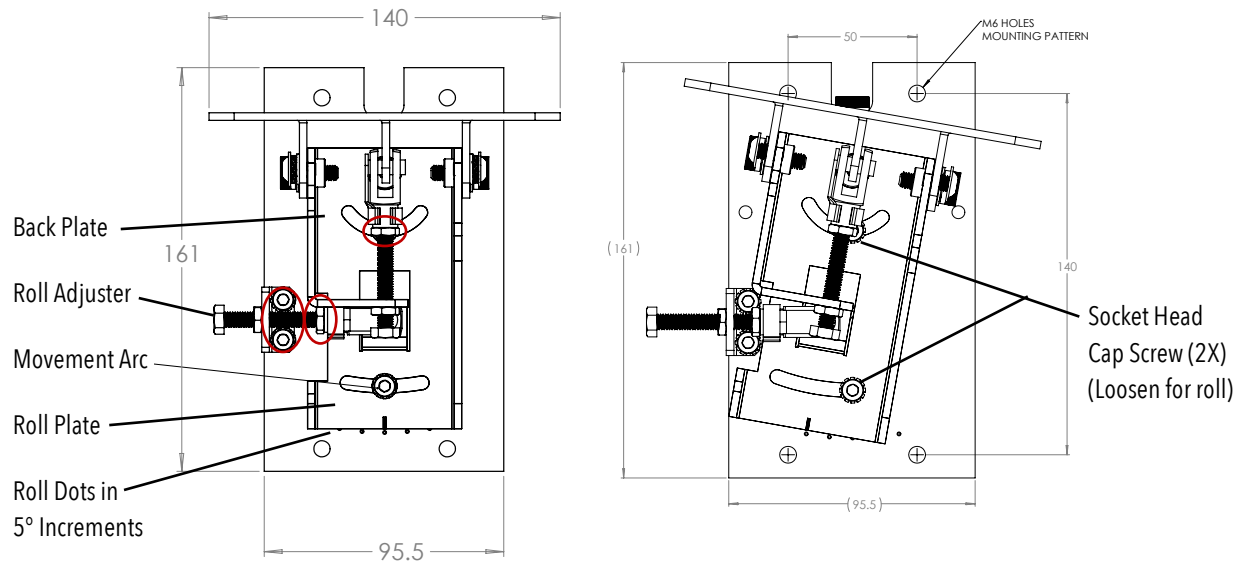

Figure 58. Adjustable Mount's Roll Adjustments
1. If you need to adjust the sensor's pitch *and* roll, loosen all locking nuts and screws below the pitch plate *except* for the items circled in red in Figure 58. Otherwise, loosen only the items pertaining to the pitch *or* roll adjustment.